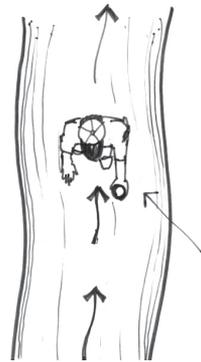

Figure 3-29: Collecting stream samples
1. Slowly wade to the center of your shallow stream or river, being careful not to kick up sediments, and face upstream (Figure 3-29).